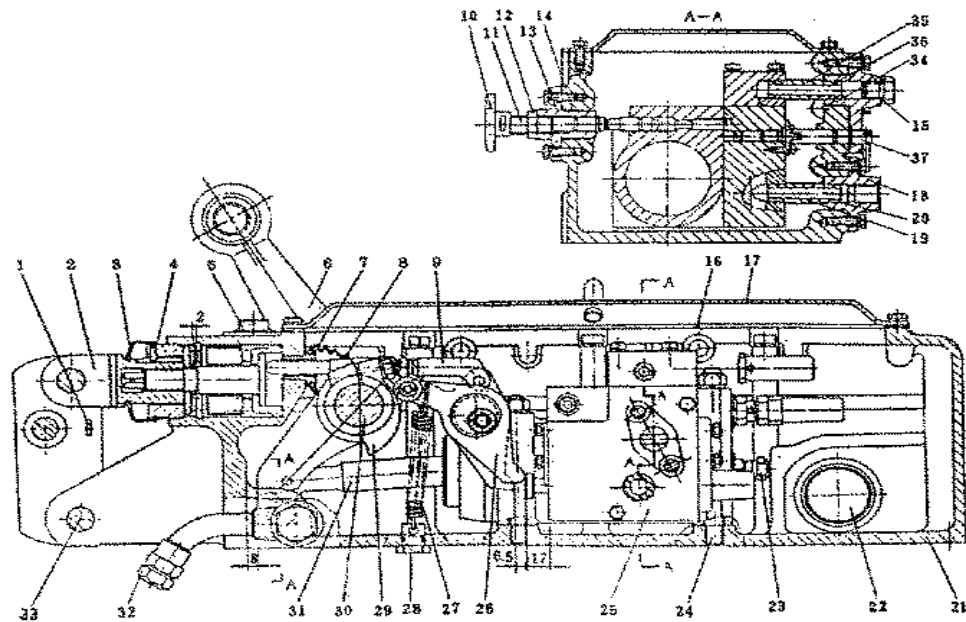

Fig.6-17 Lift Assy
D. Adjustment of Lift. (Fig.6-17)